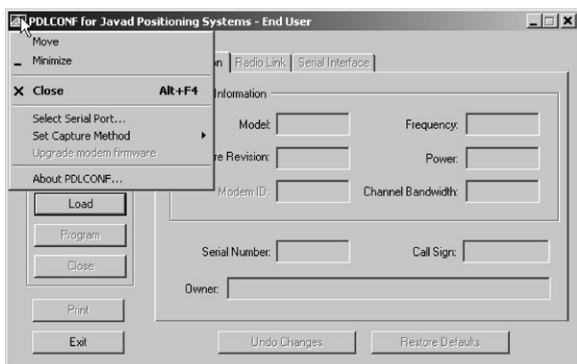

Figure 2-22. PDL Top Left Corner Icon Menu
- Click the **Pacific Crest logo** in the upper left corner of the main screen (Figure 2-22).